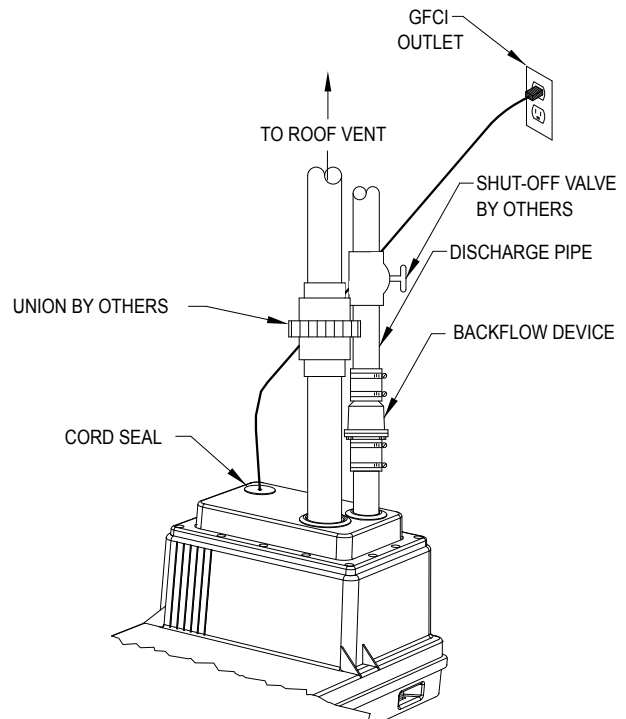

Figure 7.4
- 7.4) Complete installation as shown in Figure 7.4.